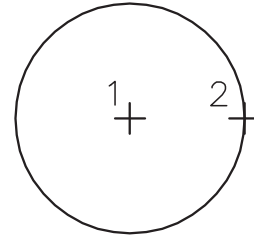

Fig. 5-3
- Pick a point a short distance from the center, as shown in Fig. 5-3.